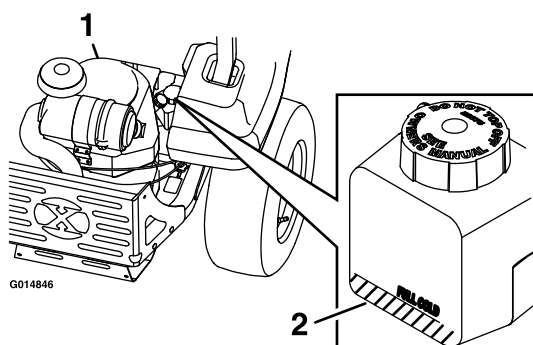

Figure 21
3. Check expansion tank and if necessary add Exmark Premium Hydro Oil to the FULL COLD line (see Figure 21).